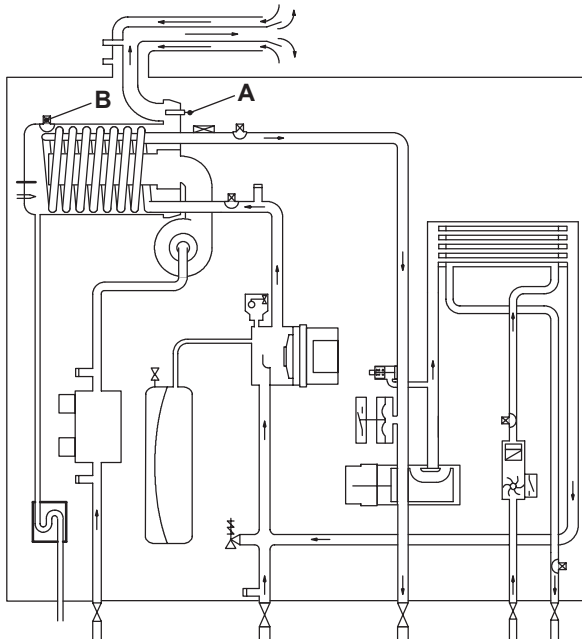
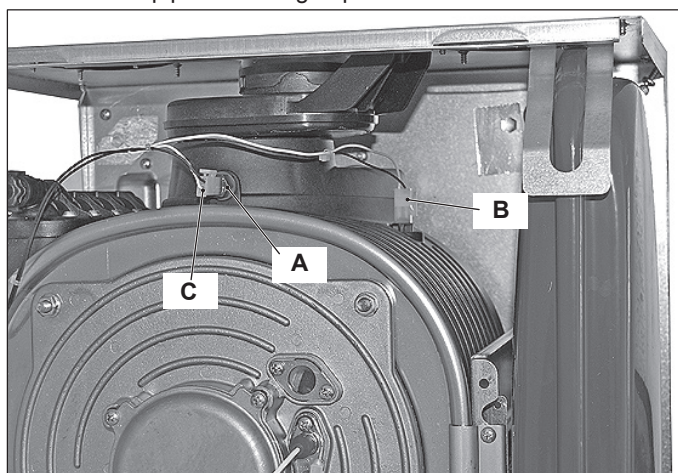

Figure 20.1
Figure 20.2
The Flue temperature probe NTC "A" in Figure 20.1 and Figure 20.2 senses the temperature of the combustion products that flow through the condensing heat exchanger.
A Safety thermal fuse "B" in Figure 20.1 and Figure 20.2 is also connected in series with the Flue temperature probe NTC and acts as a safety device in extreme case of incorrect operation of the Flue temperature control system.
- 2 Disconnect the connector "C" from the Flue temperature probe NTC by pressing the plastic hook placed on the side of the connector (Figure 20.2).
- 3 Unscrew and remove the Flue temperature probe NTC "A" (Figure 20.2) from the condensing heat exchanger.